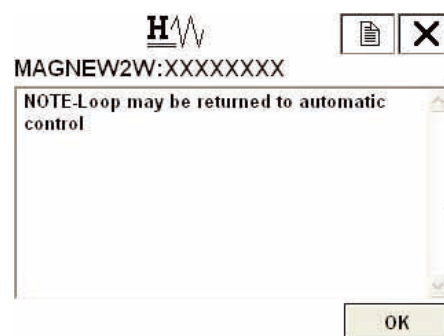

Figure 7-81
3. Note of caution will appear as shown in Figure 7-81. To proceed, press F4 (OK).